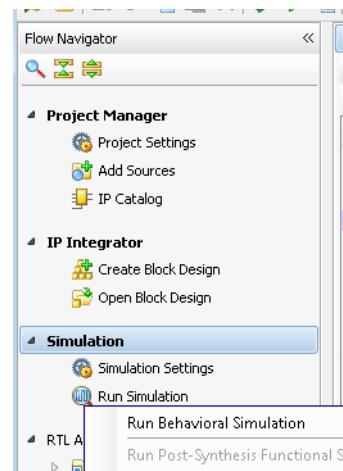

Figure 9-30: Execute Simulation
10. Click **Run Simulation** in the Flow Navigator (Figure 9-30) and select **Run Behavioral Simulation**.